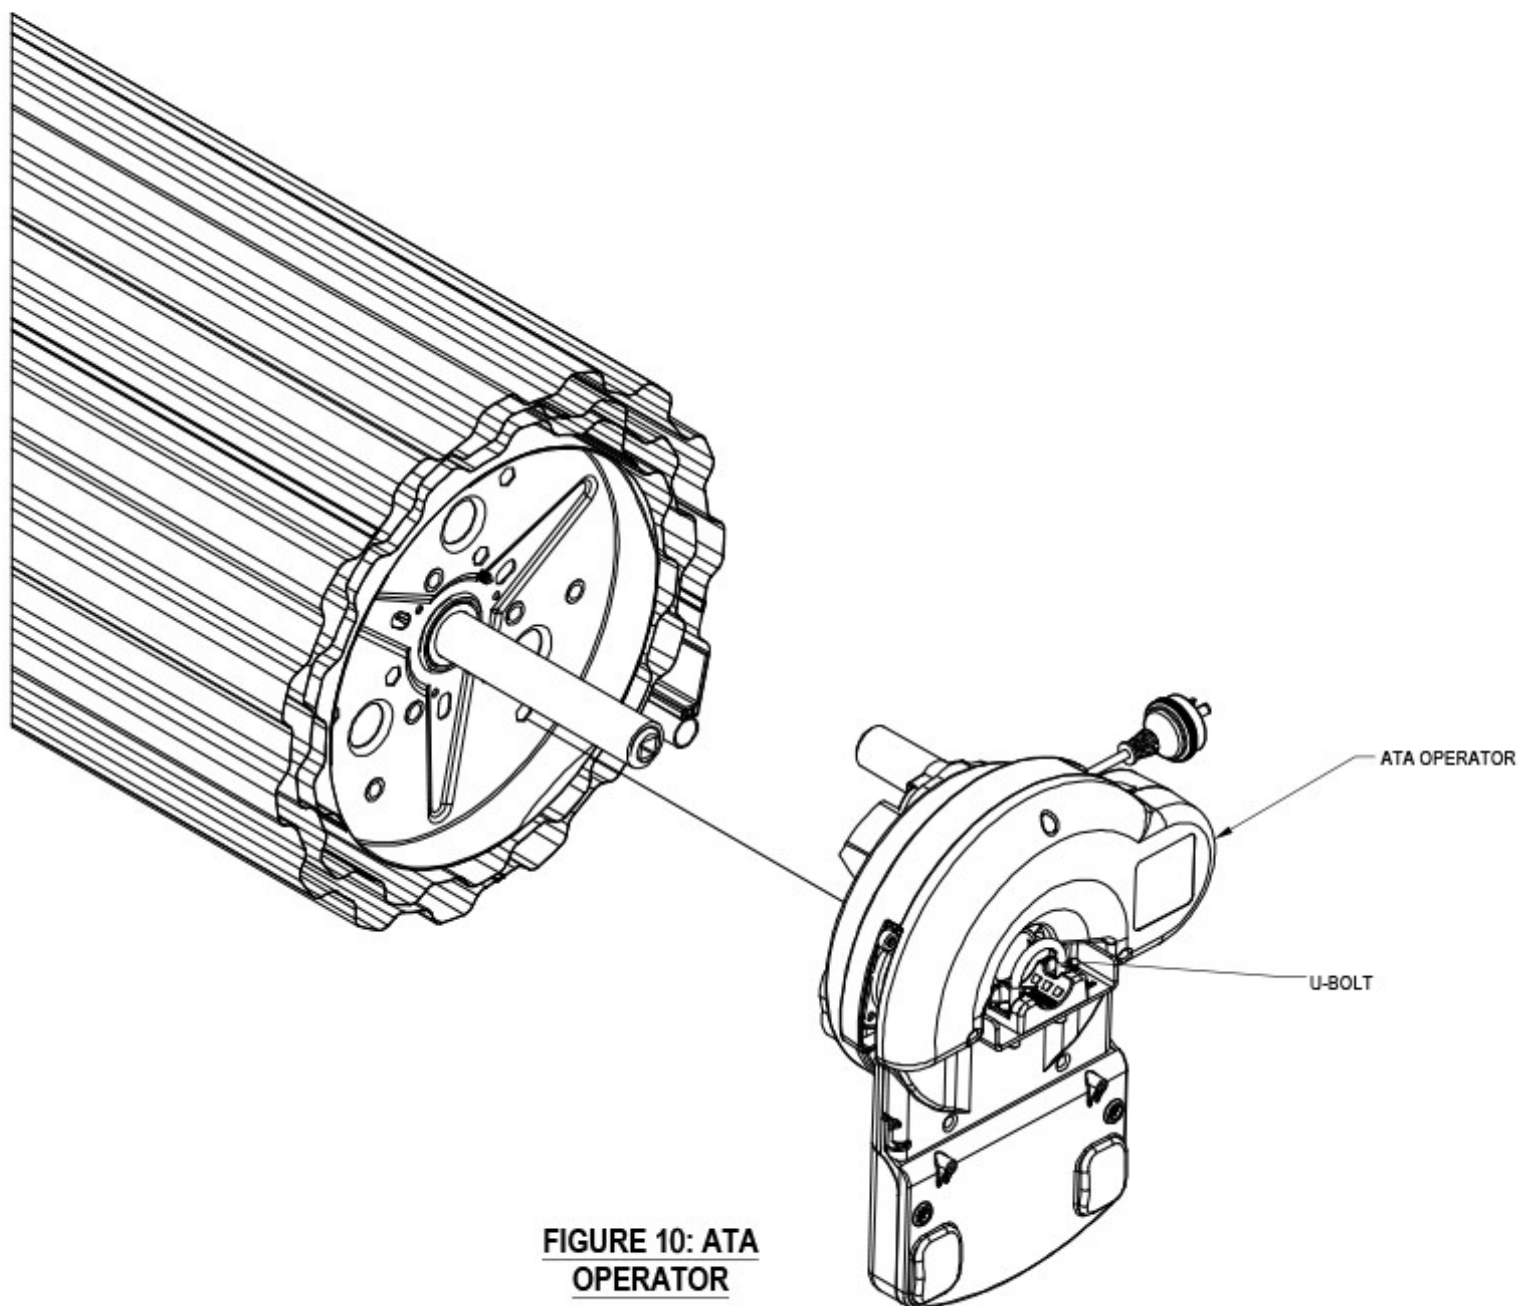

**FIGURE 9:
- Attach Support Spacer, and Sprocket to Drum using (3) $\frac{3}{8}$ -16 x 2- $\frac{3}{4}$ " hex bolt and $\frac{3}{8}$ " lock washers
- Tighten $\frac{3}{8}$ " - 16 square head set screws when in place. See Figure 9.